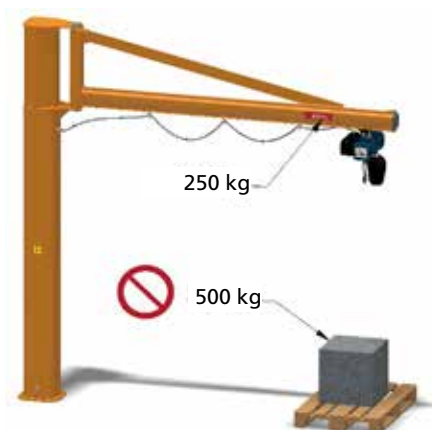

fig.74
- ▶ **NEVER** lift loads greater than the rated capacity nor equip the crane with hoists with a rated capacity higher than the crane capacity (fig. 74).